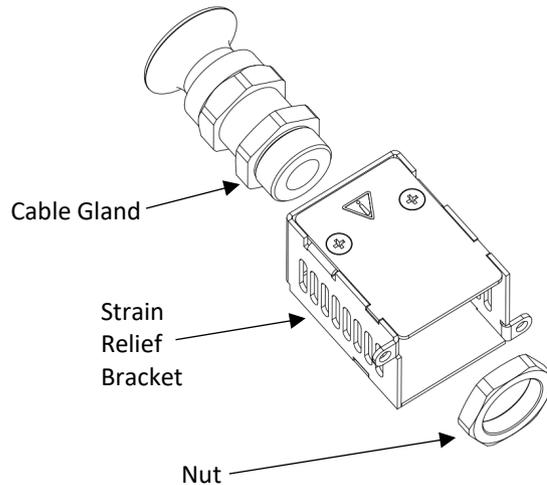

Figure 4-17: Insertion of the Plastic Nut into Strain Relief Bracket
2. Insert the Cable gland into the Strain relief bracket Assembly as shown in Figure 4-17.